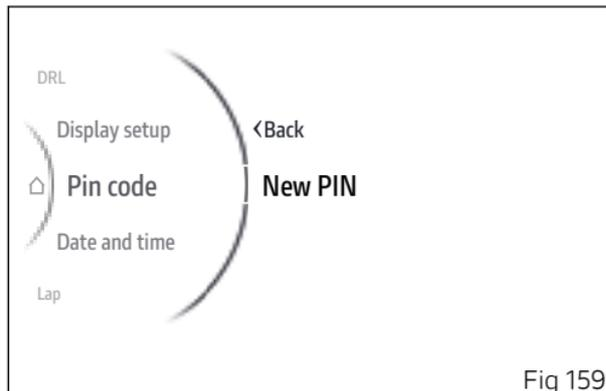

Fig 159
- From the Interactive Menu, use buttons (1) and (2) to select the item "Setting menu" and press ENTER (3).
- Select the "PIN Code" item and press ENTER (3).
- Select the "New PIN" item (Fig 159) and press ENTER (3).